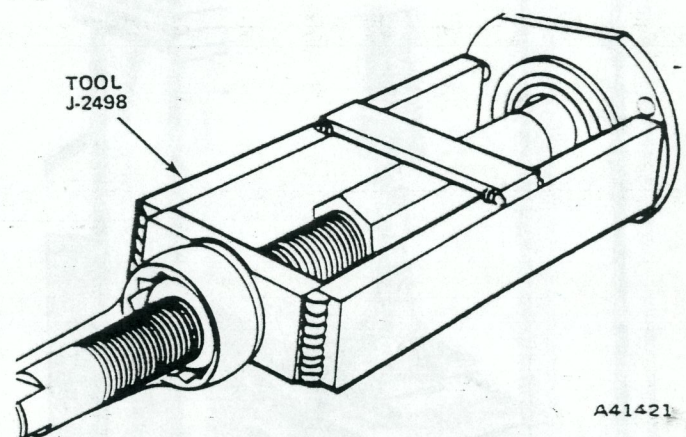

Fig. 2F-20 Axle Shaft Removal—CJ Models
- (1) Remove rear wheel, drum, and hub as outlined under Axle Hub—CJ Models.
- (2) Disconnect parking brake cable at equalizer.
- (3) Disconnect brake line at wheel cylinder and remove brake support plate assembly, oil seal, and shims from axle shaft.
- (4) Remove axle shaft and bearing using Tool J-2498 (fig. 2F-20).